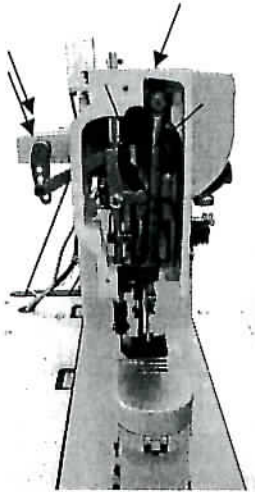

Fig.2
#### 4.OILING (Figs. 2、 3、 4、 5&6)
1) Oil should be applied at each of the place designated by arrows in Figs. 2、 3、 4、 5&6